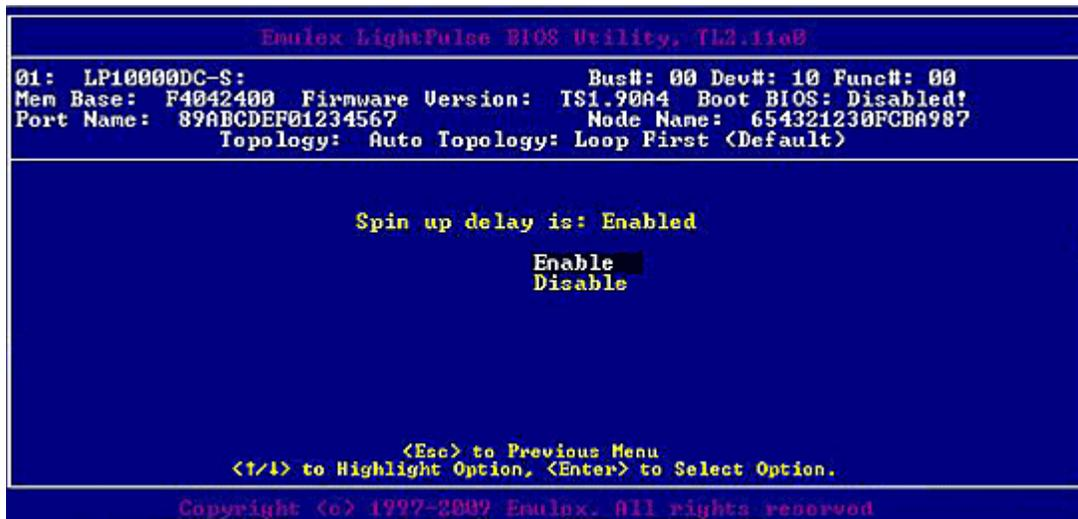

Figure 13: Enable or Disable Spinup Delay screen
2. Select **Enable or Disable Spinup Delay**. Information similar to Figure 13 is displayed.